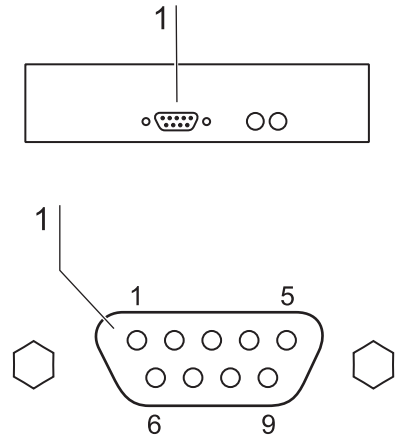

Fig. 12
2. **Fig. 12:** Connect the connector of the serial interface cable (not comprised in the scope of delivery) to the socket [1] at the supply interface at the front of the electrical box.